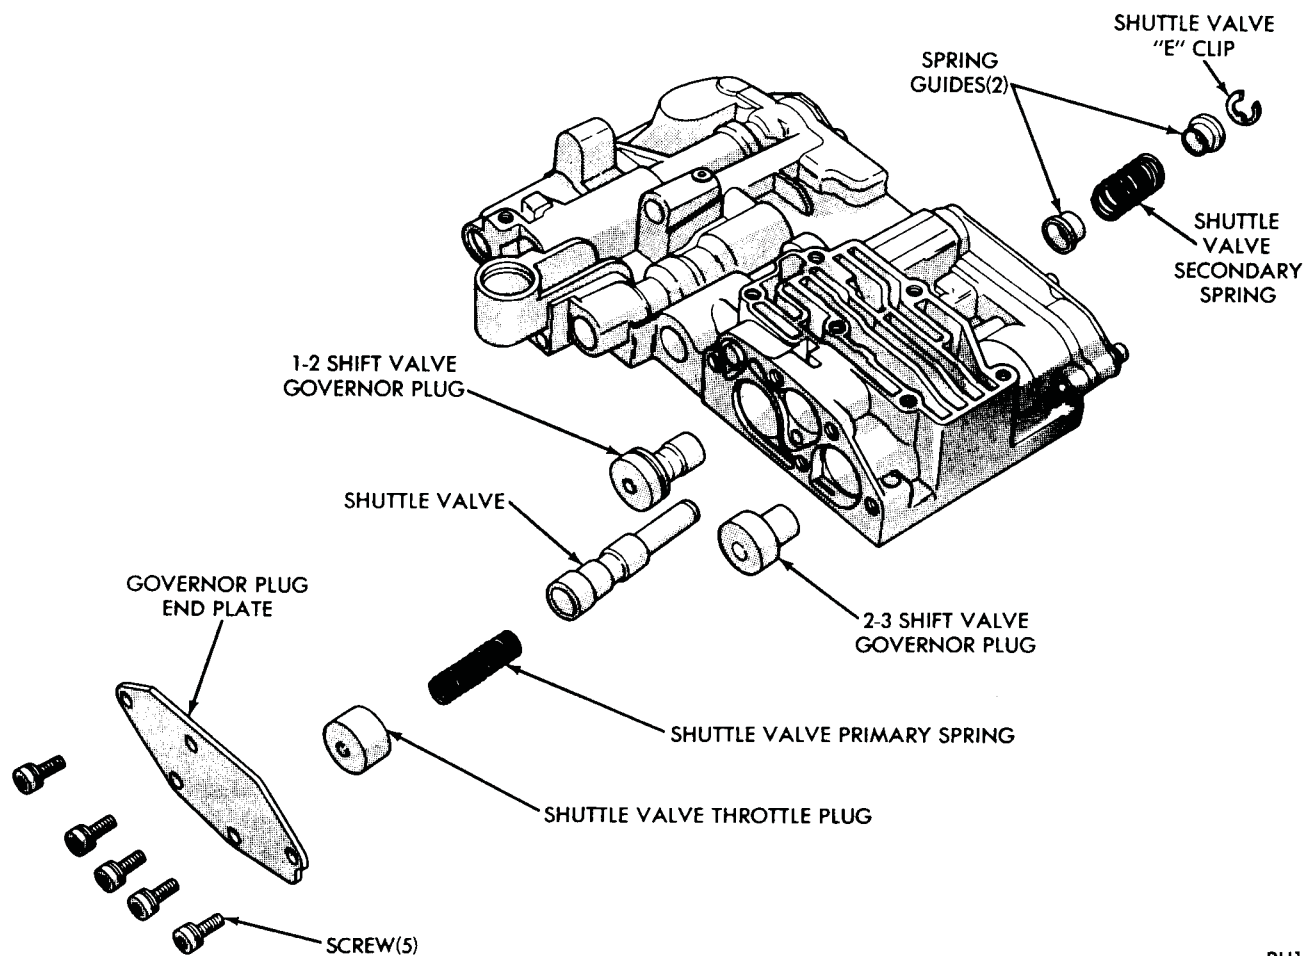

Fig. 6—Shuttle Valve and Governor Plugs
(1) Turn valve body over and remove shuttle valve cover plate.
(2) Remove governor plug end plate (Fig. 6) and slide out the shuttle valve throttle plug and spring, the 1-2 shift valve governor plug and the 2-3 shift
Shuttle Valve and Governor Plugs (Fig. 6)